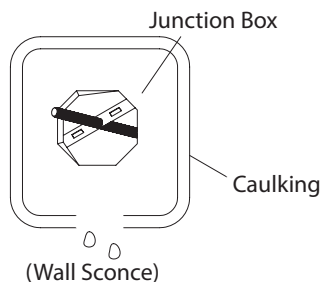

Fig. 4
**NOTE: DIMMING WIRING INSTRUCTIONS (Fig. 4)**